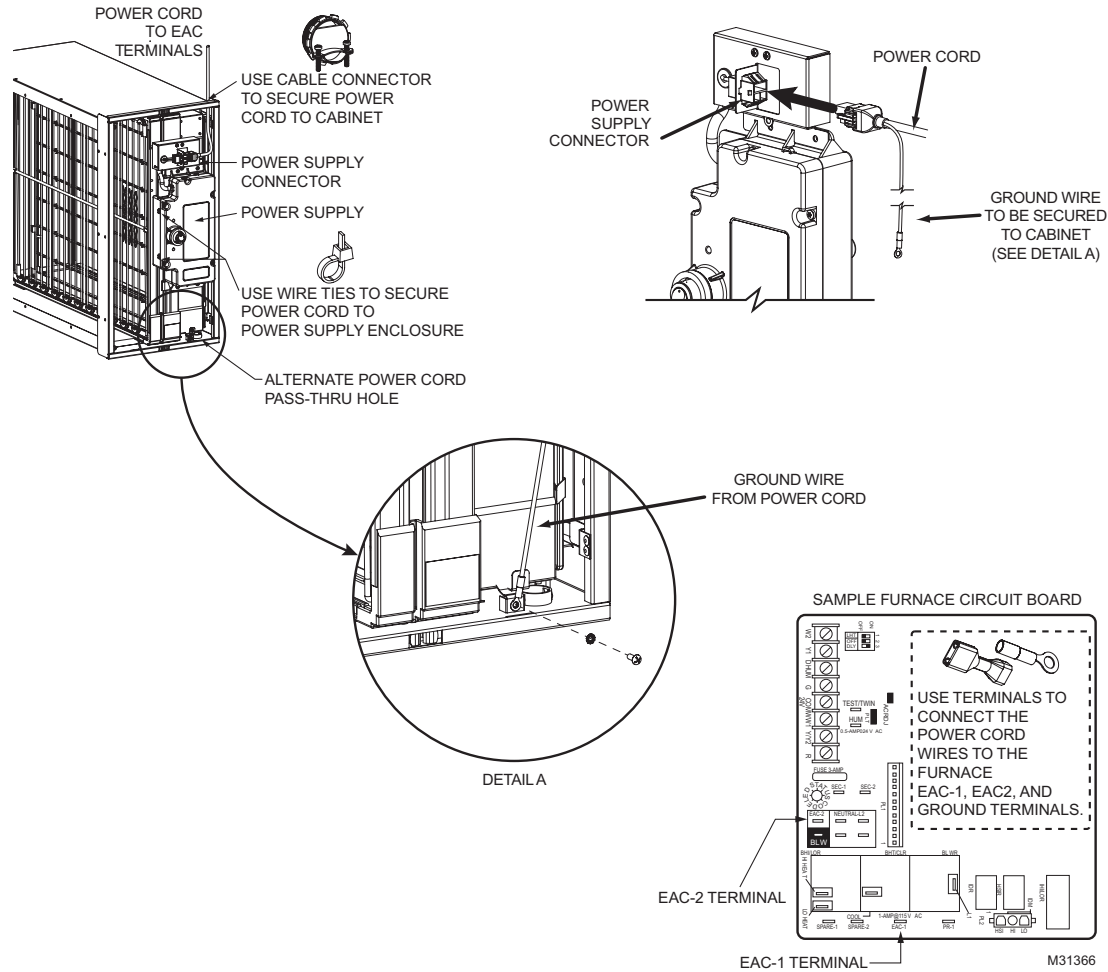

Fig. 15. Electrical connections.
- Connect the power cord to the power supply connector (see Fig. 15).
- Secure the power cord ground wire to the ground terminal on the cabinet using the screw provided in the ground terminal (see Fig 15).
Models FH8000F: Unplug the power cord from the enhancement module (see Fig. 15 on page 17).
Models FH8000F: Reconnect the power cord (see Fig. 15 on page 17).